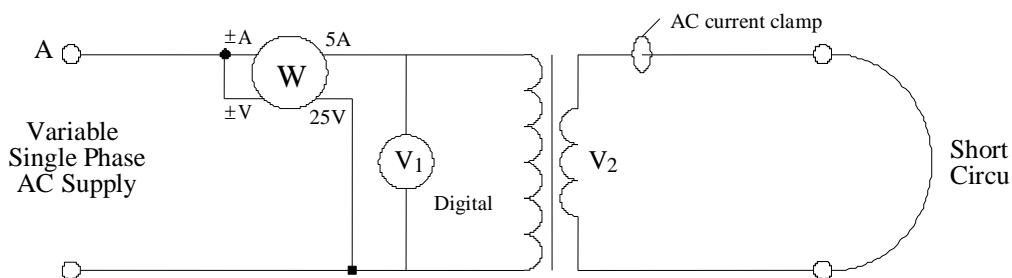

Figure 2
2. Connect the transformer as shown in figure 2, using the 42V winding as the primary and with a 4mm lead shorting the secondary.